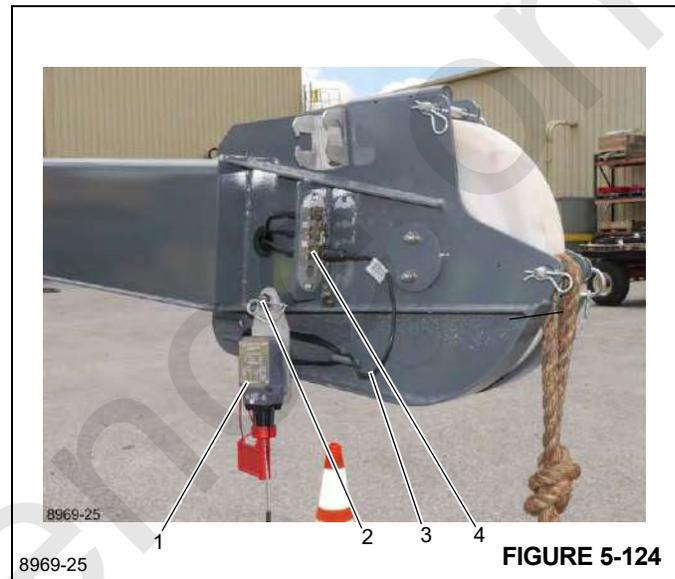

FIGURE 5-124
1. Install the anti-two block switch (1), (Figure 5-124) on to the pin (2) and secure it with a retaining clip.
2. Route the anti-two block cable (3) such that it will not be damaged during crane operation, and connect the anti-two block switch to socket (4).
1. Remove the plug from the socket (4), (Figure 5-124).
2. Remove the anti-two block switch assembly (1) from the pin (2).